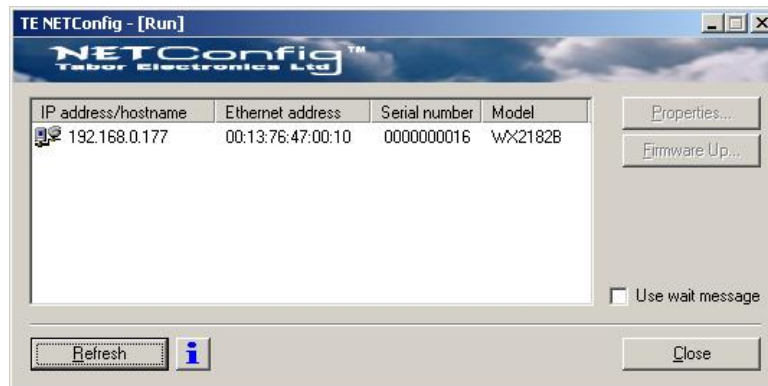

Figure 6-6, WX2184C has been Detected on the LAN Network
5. As soon as the progress bar reaches the far right-hand side of the bar, click on the Refresh button. If your device was connected and booted correctly, the device address will appear in the device list, as shown in Figure 6-6.